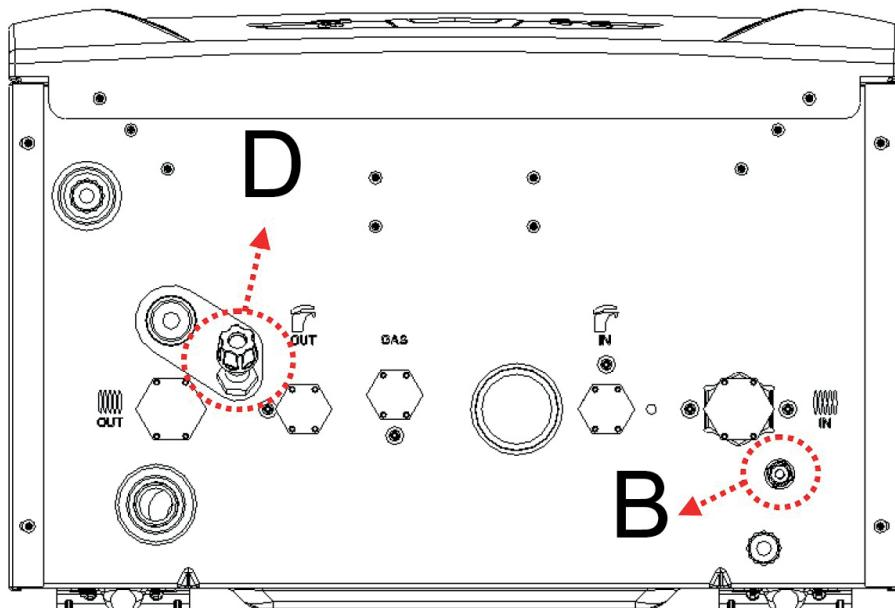

Figure 2. Bottom view of Seradens Super combi boiler
Pressure sensor is included in Seradens Super combi boilers. After all connections (electric, fittings and flue) are completed, system could be filled by means of filling tap (F) which is positioned at left-bottom side of the boiler (Figure 2). Before filling the system, press user info key (2) for 2 seconds and see i00 symbol and pressure value alternately on the screen. Filling operation must last until "b1.2" value is displayed on the screen. If the user info menu is closed before the intended value is reached (it is closed after 30 seconds), enter the user info menu again by pressing key (2) for 2 seconds in order to be sure of that sufficient amount of water is filled to the system.
If the water pressure falls down under a certain value, E04 error is seen on the screen. In order to increase the pressure value, open the filling tap (F) in Figure 2. Check the pressure value from the screen to avoid filling the system excessively. Keep filling the system until the pressure reaches 1.2 bar, then close the filling tap.
Excessive filling of the heating system leads to E47 error, this is a precaution to avoid uncontrolled discharge of excess water from 3 bar safety valve. If you see E47 error on the screen due to excess pressure, discharge the proper amount of water by means of drainage tap (D) (Figure 2) or follow the instructions given in "Water Pressure Errors" in Section 2.10.